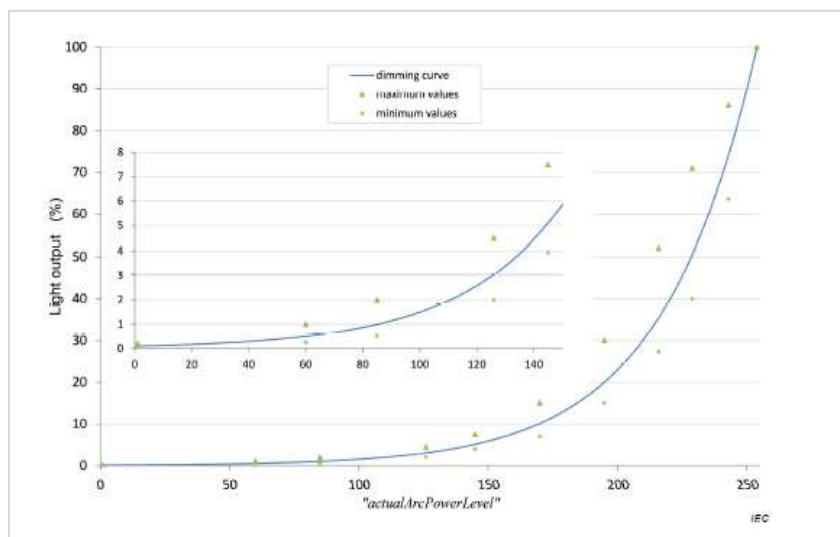

Figure 3
To regulate the LED light intensity, a DALI signal needs to be applied to line P1 (DA) and line P2 (DA). If no signal is applied to P1 and P2, the output current is at maximum level. The actual dimming curve as per DALI standard, EN 62386-102, is shown in Figure 3.